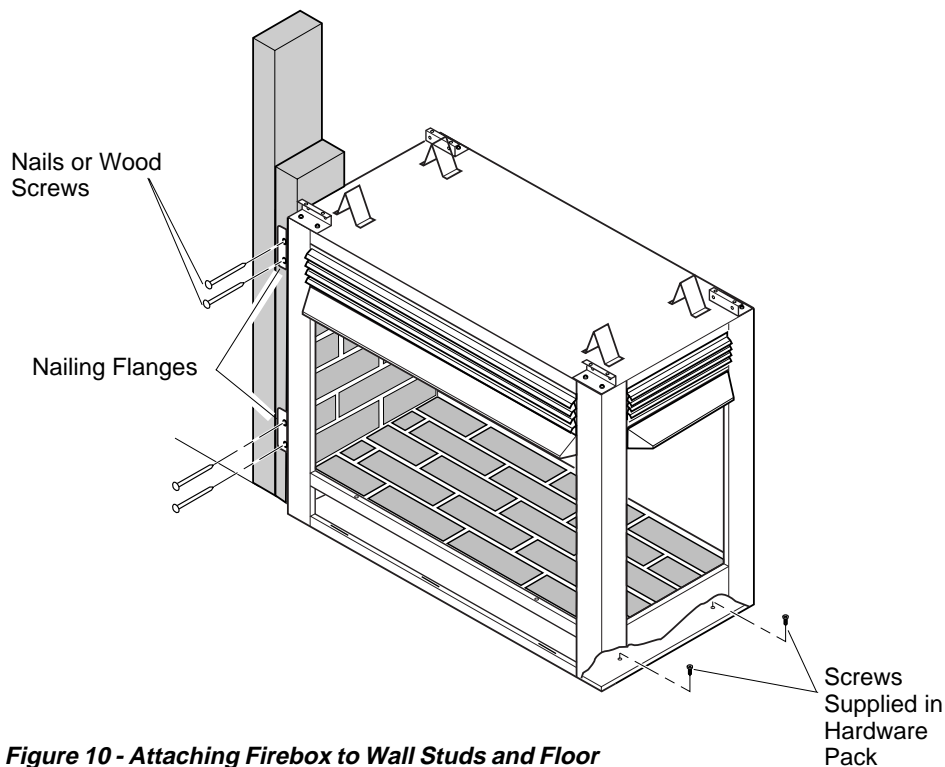

Figure 10 - Attaching Firebox to Wall Studs and Floor
7. Attach firebox to wall studs using nails or wood screws through holes in nailing flange (see Figure 10). Attach firebox to board base through holes in firebox bottom (see Figure 10).